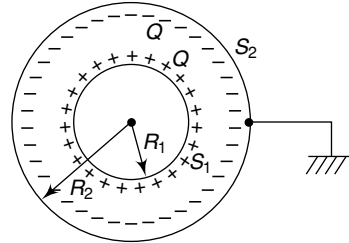

Fig. 1.19 Charge distribution of concentric spheres (outer sphere earthed)
S_2 (the outer sphere) is earthed Let the inner sphere S_1 be charged by $(+Q)$ coulomb of charge. It will induce $(-Q)$ coulomb charge at the inner surface of S_2 and $(+Q)$ coulomb charge at the outer surface of S_2 . But as the outer surface of S_2 is earthed, this $(+Q)$ charge at the outer surface of S_2 will escape (e_1) to the earth (Fig. 1.19).
1.7 Find the equivalent capacitance of the network shown in Fig. 1.19 connected across terminals a and b .